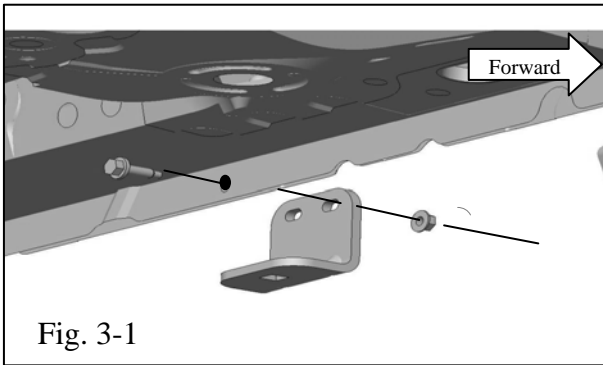

Fig. 3-1
- (b) Align Pinch Weld Bracket to outside of pinch weld and install M5 bolt from inside drilled pinch weld hole outward through bracket, finger tighten nut. (Fig. 3-1)